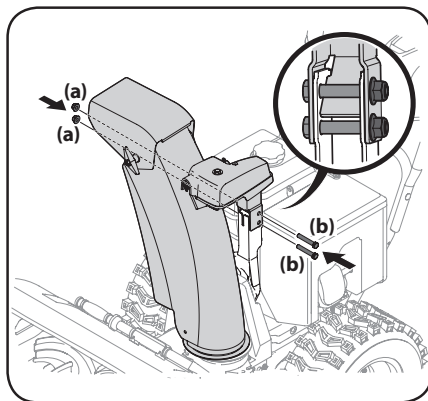

Figure 2-33
3. Secure chute control head to chute support bracket with lock nuts (a) and hex screws (b) removed in Step 1. See Figure 2-33.